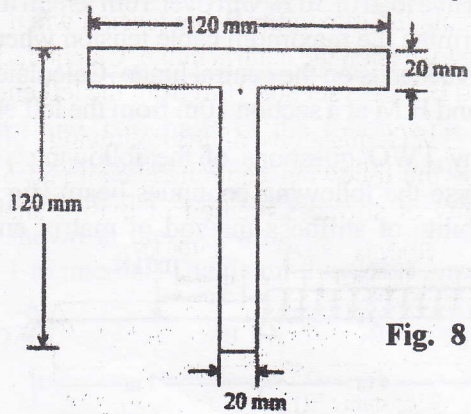

Fig. 8
- (a) Define shape factor and obtain its value for T-section with the following dimension shown in the fig 8. If the yield stress is  $250 \text{ N/mm}^2$ . Find  $M_p$ .